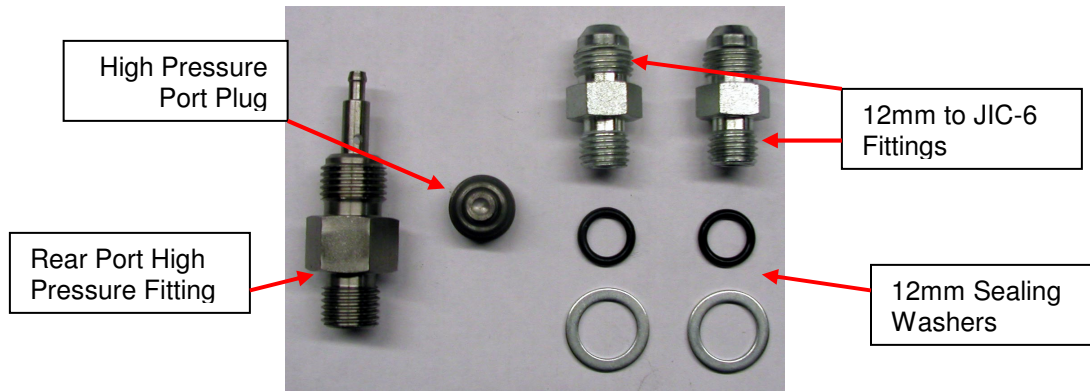

Figure 2 – LLY/LBZ Twin CP3 Pump Fittings
3. Please refer to **Figure 2** for fuel port locations. Wrap 2 to 3 layers of Teflon tape around the spring end of the Rear Port High Pressure Fitting prior to installation. Do the same with the High Pressure Port Plug